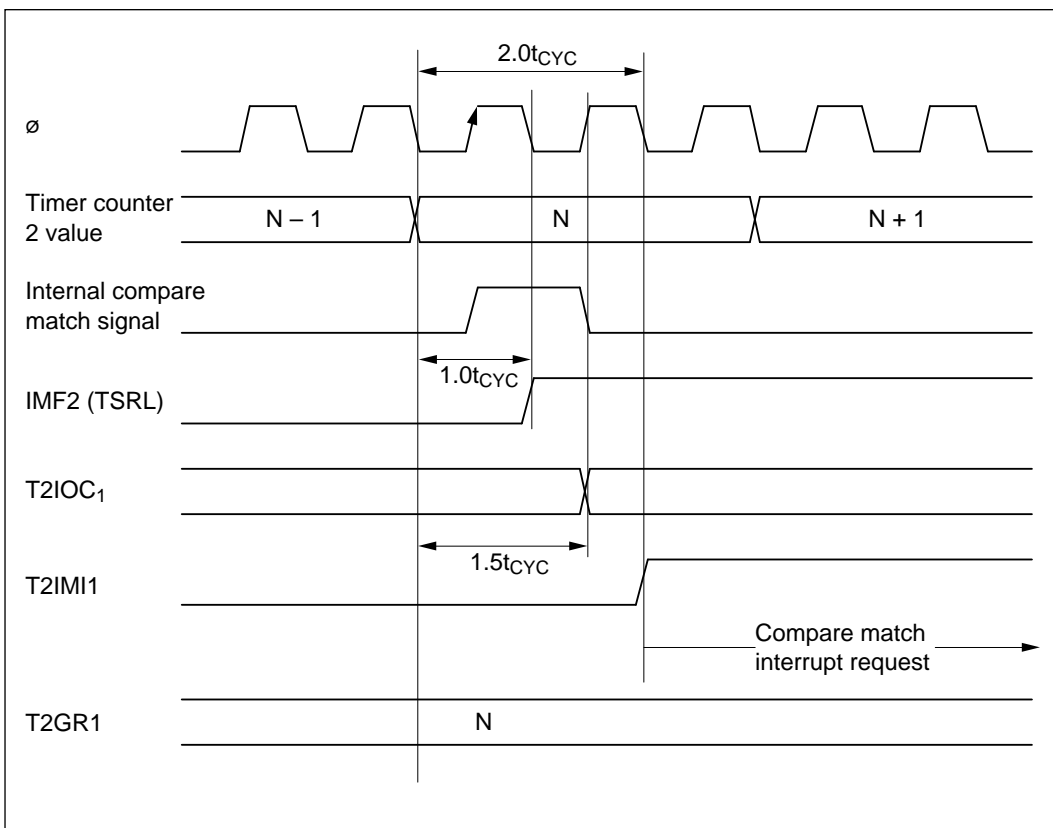

Figure 10-46 Timing from Incrementation to Compare Match Interrupt Request
(1) **Output Compare Timing:** Figure 10-46 shows the timing from counter increment to generation of a compare match interrupt request. One system clock cycle ($1.0t_{CYC}$) after timer counter 2 matches the T2GR1 value (N), the IPU sets the input capture/compare match flag (IMF). A compare match signal ($T2IOC_1$) is output $0.5t_{CYC}$ after IMF is set. The interrupt request ($T2IMI1$) is generated $0.5t_{CYC}$ after the $T2IOC_1$ output. The $T2IMI1$ interrupt request therefore comes $2.0t_{CYC}$ after the counter is incremented to N.